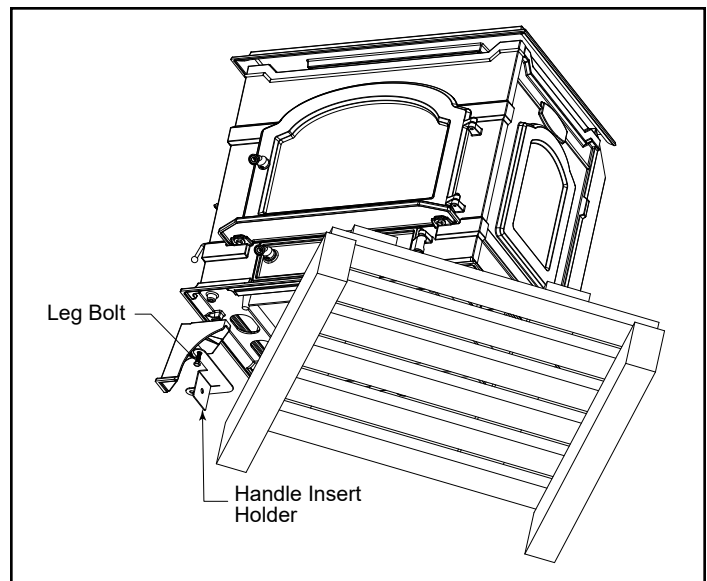

Figure 20 - Rotate stove on pallet to expose front left corner.
2. Rotate the stove counterclockwise until the front left corner overhangs the pallet and the leg-mounting hole is accessible. (Figure 20)
3. Remove and discard the (4) 3/8-16 x 1/2" round head bolts that are in the leg holes on the bottom of the stove.
4. In the hardware bag, locate the four legs, the door handle insert holder, (on this leg only, the door handle insert holder is used along with a washer), (4) 3/8-16 x 1" leg bolts and four (4) washers.